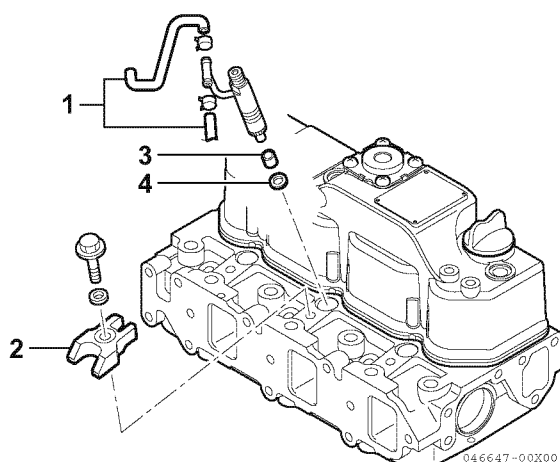

Figure 7-53
1. Reinsert a new nozzle seat (**Figure 7-53, (4)**) and nozzle protector (**Figure 7-53, (3)**) in the cylinder head for each injector.
4. Reinstall the fuel injector retainers (**Figure 7-53, (2)**) and torque the retaining bolts to specification.
5. Reinstall the fuel return hoses (**Figure 7-53, (1)**), one on each side of each injector.